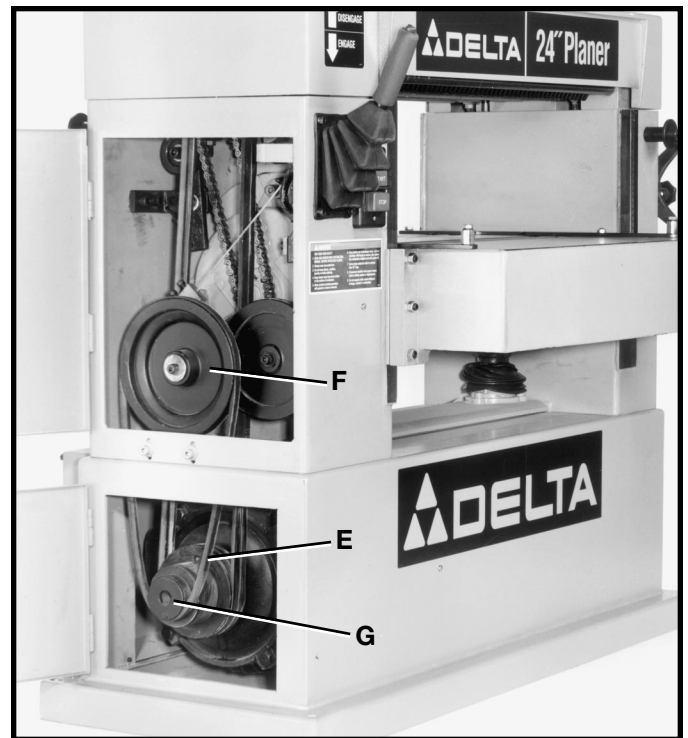
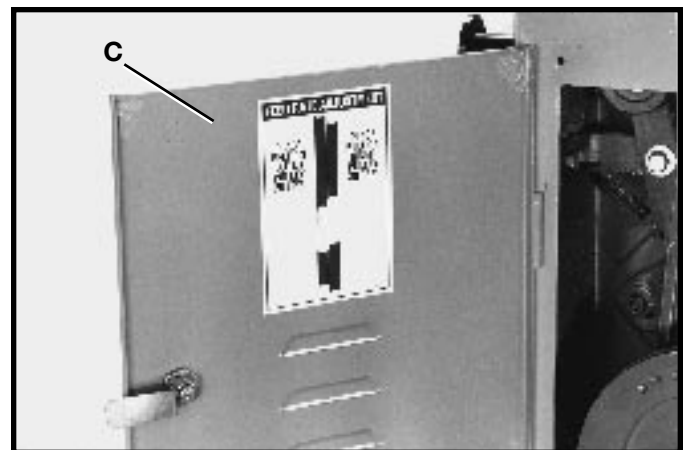

Fig. 19
Fig. 20
6. Reposition drive belt (E) Fig. 19, on pulleys (F) and (G). When belt (E) Fig. 19, is on the smallest step of motor pulley (G) and the largest step of the gear box pulley (F), the feed roll speed will be 20 feet per minute. When belt (E) Fig. 19, is on the largest step of the motor pulley (G) and the smallest step of gear box pulley (F), the feed roll speed will be 30 feet per minute. A convenient feed rate adjustment chart is located on the back of panel (C) Fig. 20, for quick reference.